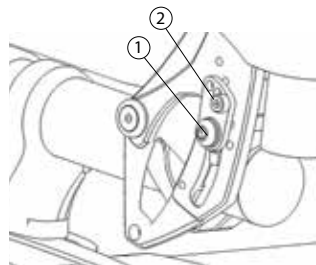

Fig. 9
- Loosen screw (1) (Fig. 9) and remove screw (2) from the levelling device.
- Reinstall screw (2) and tighten both screws to fit snugly.